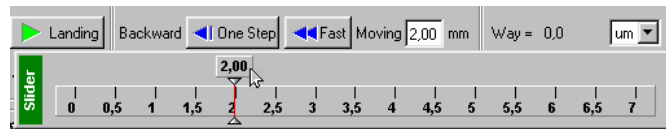

Fig. 3-32
- Set the value of 2-3mm, using the slider (Fig. 3-32),